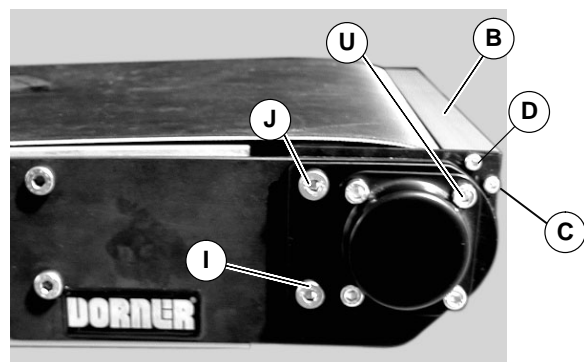

Figure 27
10. Place transfer plate support (B of Figure 27) on end of conveyor and attach with screws (C) and (D) on each side of conveyor. Tighten screws (C and D) to 50 in-lbs (5.6 N-m).
11. Tighten screws (I and J of Figure 27) to 146 in-lbs (16.5 N-m) and tighten screw (U) on side of conveyor opposite the drive.